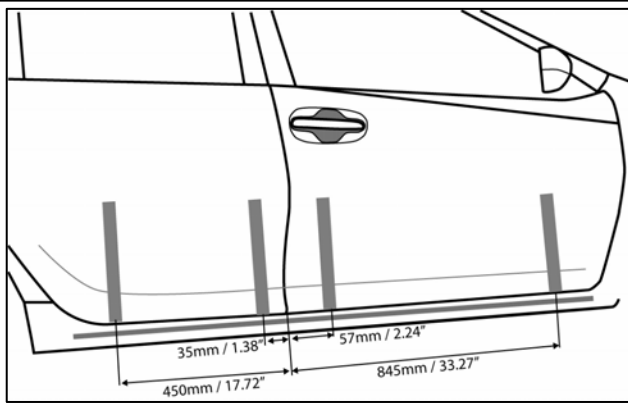

Fig. 2-3
- ⚠ (b) Measure 57mm forward and place a vertical piece of tape on the front door approximately 335mm long. Measure 845mm forward and place a vertical piece of tape on the front door approximately 310mm long. Measure 35mm rearward and place a vertical piece of tape on the rear door approximately 340mm long. Measure 450mm rearward and place a vertical piece of tape on the rear door approximately 360mm long. See Fig 2-3.